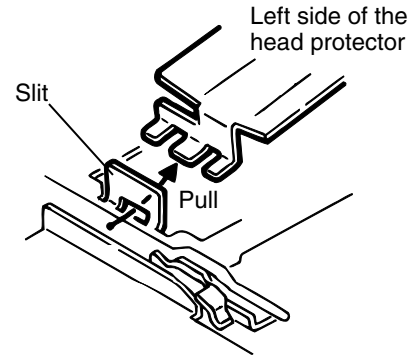

Fig. 5
3. Pull the left tab of the head protector from the slit (See Fig.5).